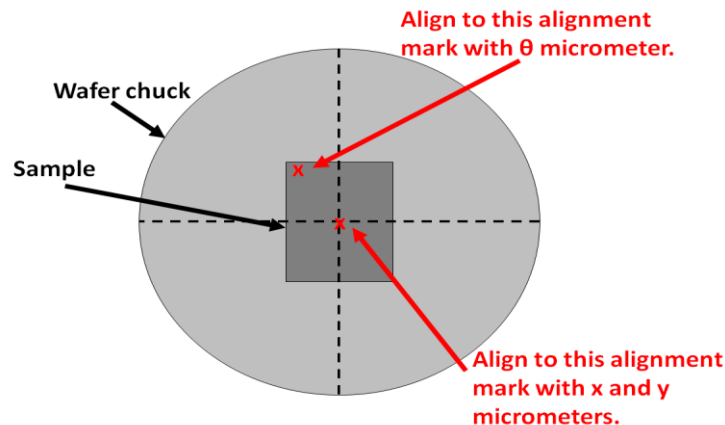

Figure 15 Alignment when placing the sample in the center of the chuck.
- ii) If we place our sample in the center of the chuck and perform alignment, then it is best to use the marks that are in the center of the sample as well as marks at one edge of the sample (**Figure 15**).